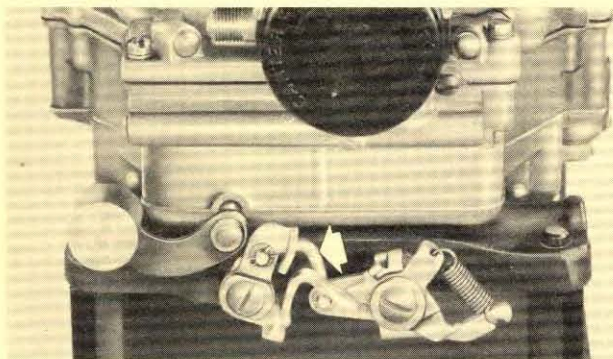

Fig. 16
8. Secondary Throttle Lever Adjustment: Primary and secondary throttle valves should reach wide open position at the same time. To adjust, bend operating rod at upper angle indicated by "arrow," Fig. 16. Use bending Tool T109-213.